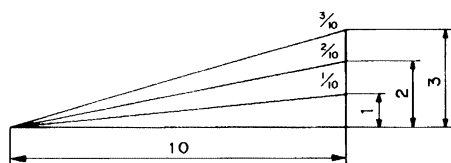

Fig. 26
- (4) The gradient, which is the ratio of the height to the base of the triangular section to be removed, may be used for setting the miter scale instead of the cutting angle, if desired (see Fig. 26).